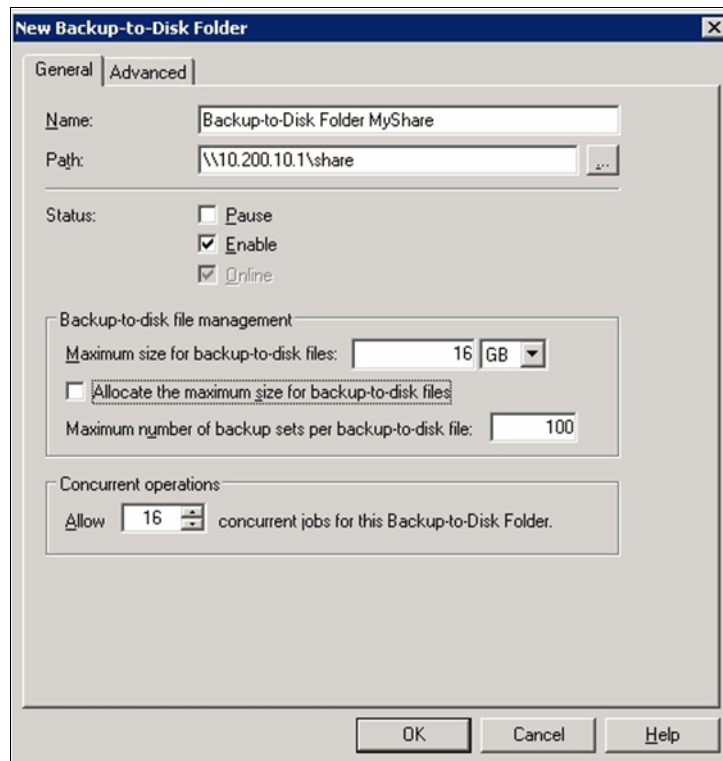

Figure 14-2 Create a backup-to-disk folder
4. Configure the parameters of the folder. Figure 14-2 shows the preferred parameters (full path name, and maximum concurrent jobs).